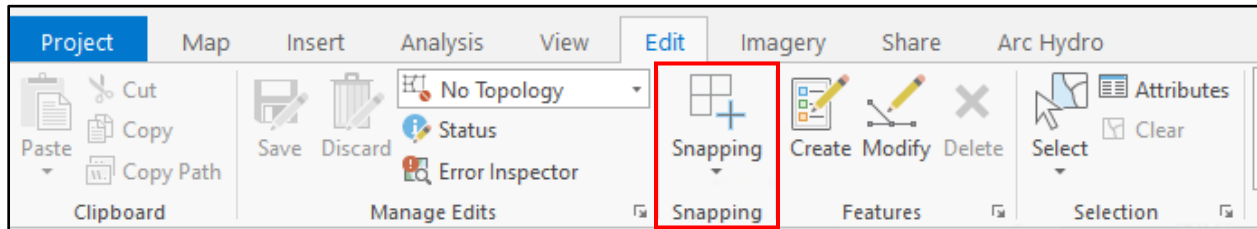

Figure 45
1. Open the Drainage Mapping map in ArcGIS Pro (See **Section 2.1.2**). Ensure snapping is enabled by toggling the CTRL + F5 key, or by clicking “Snapping” on the Edit tab (Figure 45).